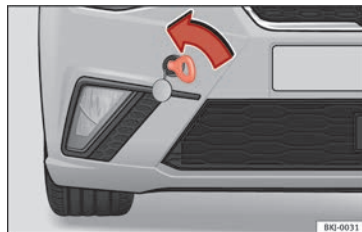

Fig. 106 Right side of the front bumper: tow-line anchorage screwed in.
- Bolt the anchorage to its limit to the *left*, in the direction of the arrow » **Fig. 106**.